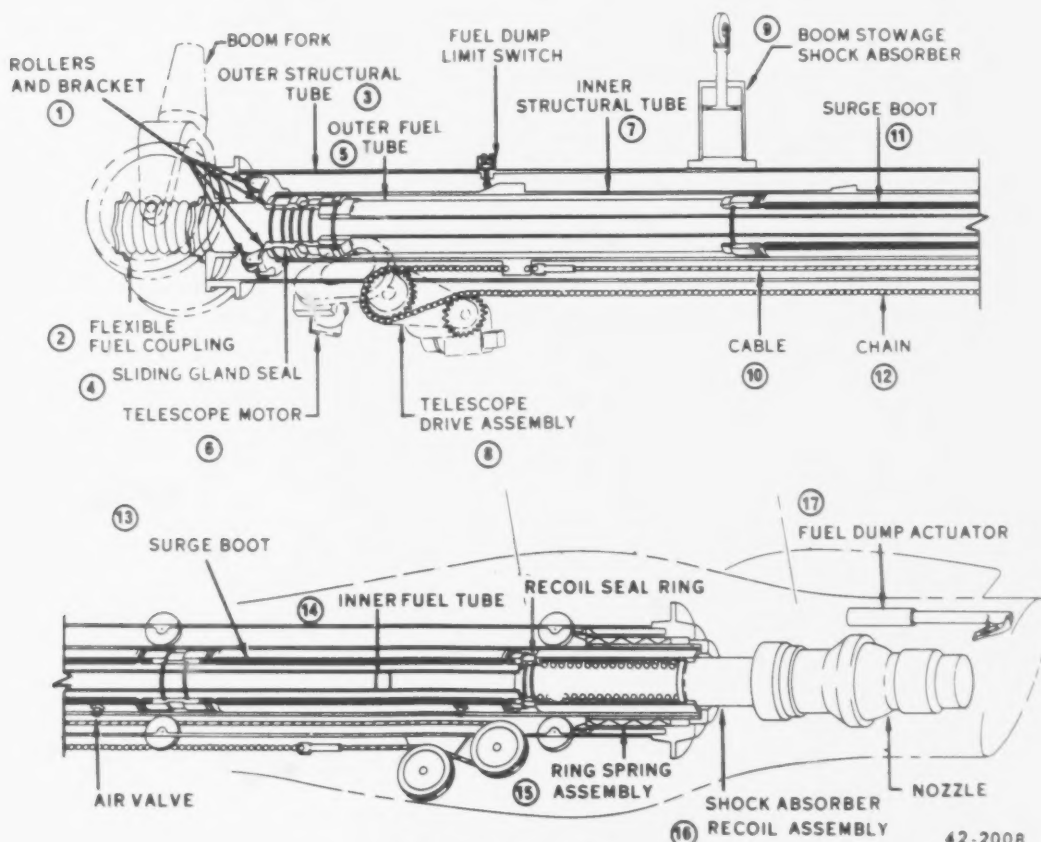

Figure 4-4. Typical A/R boom.
The Air Refueling Boom. The A/R boom is a telescoping tube. Figure 4-4 is a simplified drawing of the A/R boom. Notice that the boom consists of two telescopic tube assemblies (3 and 7), referred to as an outer structural tube and an inner structural tube, that connect to the A/R fuel system through a flexible fuel coupling (2). The boom is telescoped with a sprocket-driven chain (12) and cable (10), which are attached to the inner structural tube. The sprocket is driven by a reversible hydraulic telescope motor (6) through a reduction gear telescope drive assembly (8). The boom is approximately 27 feet 8 inches long when retracted, and approximately 47 feet 3 inches when extended. The inner fuel tube (14) extends approximately five-sixths of the way from the terminal end of the boom through the outer structural tube. The outer surface of the inner fuel tube forms a sliding seal, with Teflon ring seals at the forward end of the inner structural tube. The ring spring assembly (15) cushions the inner structural tube when it reaches either limit of its travel. Not to be confused with the ring spring assembly is the shock absorber recoil assembly (16). This boom component attaches the nozzle to the boom inner structural tube and absorbs impact during refueling contact. Two tandem-mounted surge boots (11 and 13) connect between the outer fuel tube (5) and the shock absorber recoil assembly. The boots are inflated with dry air to absorb high fuel pressure surges that occur during refueling or while disconnecting from the receiver aircraft. Mounted at the forward end of the outer structural tube are elevation and telescoping electrical control units (not shown). These control units actuate limit and director light switches. These control unit switches are discussed in a following objective.